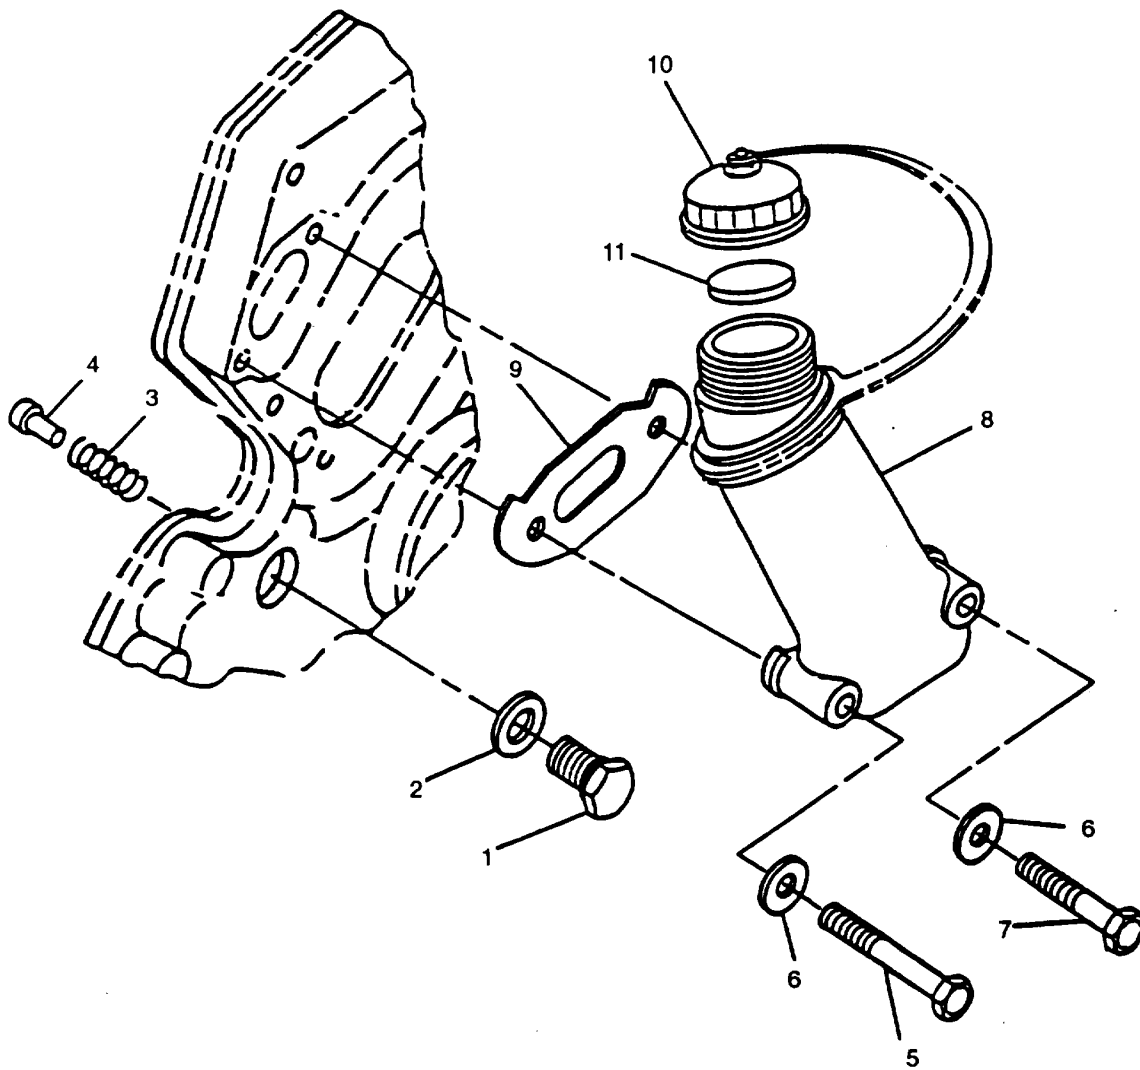

FIGURE 3-50. Oil Pressure Regulating Valve and Oil Filler Assembly
Spring (3, FIGURE 3-50) is under pressure and can cause personal injury when plug (1) is removed.
- c. Remove oil pressure regulating valve plug (1) and washer (2).
- d. Remove oil pressure regulating valve poppet (4) and spring (3).
If engine is being repaired due to low oil pressure, replace spring (3, FIGURE 3-50). If due to high oil pressure, install an additional washer (2).
- b. Install oil pressure regulating valve poppet (4) and spring (3) in engine block.
- c. Install washer (2) and plug (1). Tighten plug to 70 ft- lbs (95 Nm).
- b. Remove two capscrews (5 and 7, FIGURE 3-50) and washers (6) securing filler neck (8) to engine block. Remove filler neck (8) and gasket (9); discard gasket.
- b. Inspect filler cap (10, FIGURE 3-50) and gasket (11) for damage. Replace as necessary.
- b. Position new gasket (9, FIGURE 3-50) and filler neck (8) on engine block and secure with two capscrews (5 and 7) and washers (6).